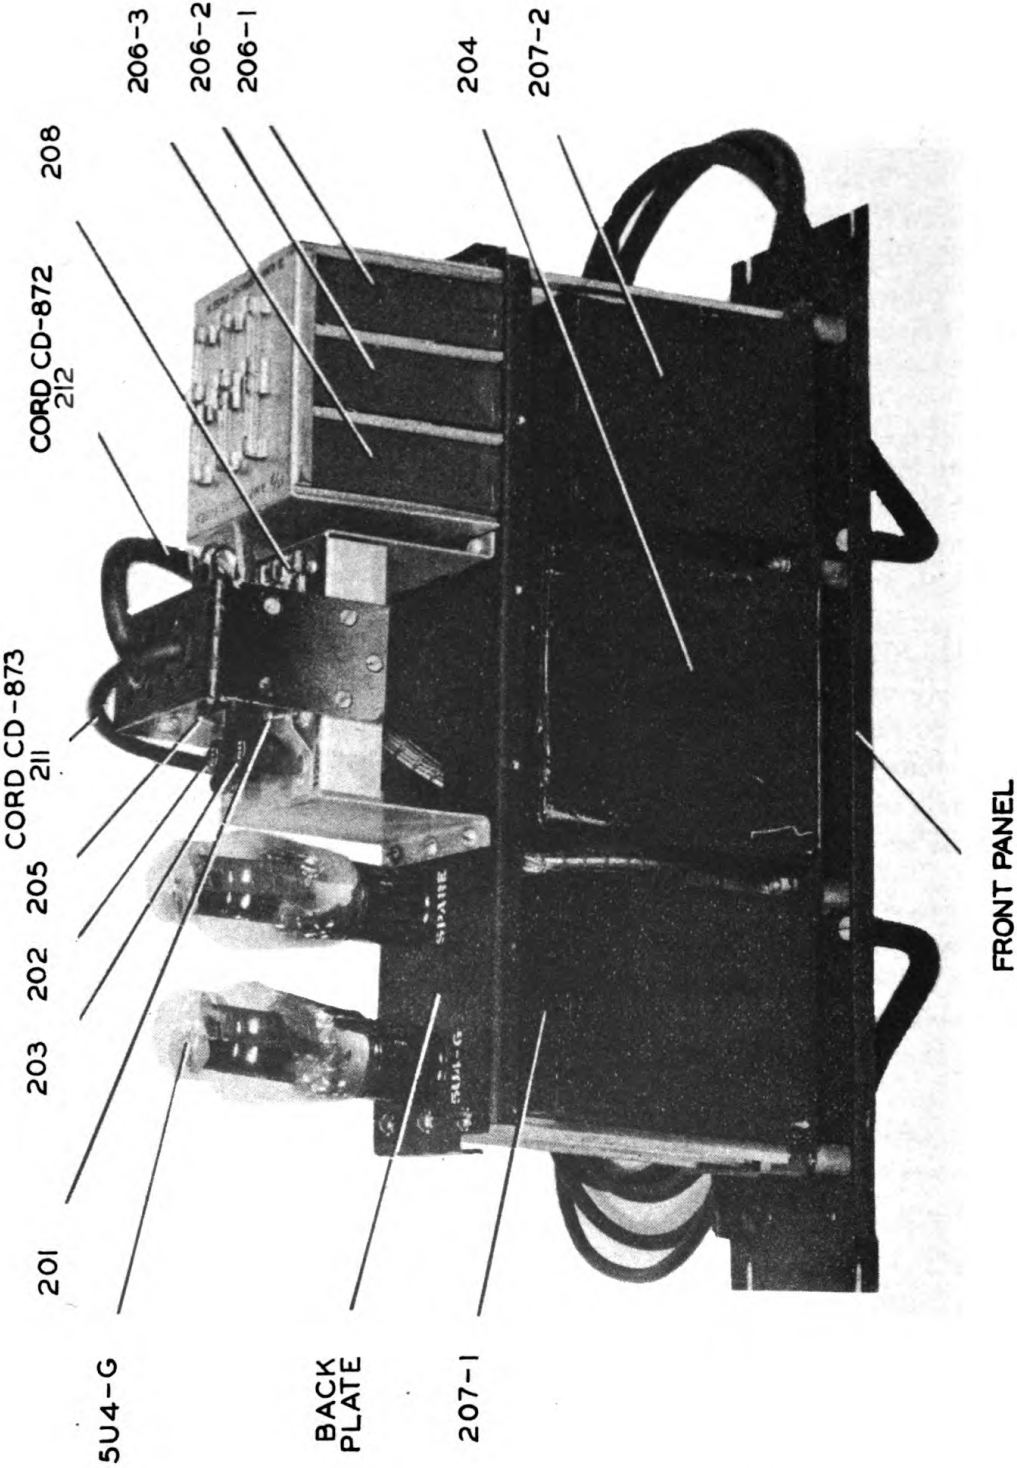

Figure 10. Power Supply Unit RA-61-A, interior view
a. **Filter capacitors.**—(1) To remove the filter capacitors, first loosen the BACK PLATE (see figure 10) from the three posts on each side of the power unit to which the plate is mounted. Take out the six screws and it will be free. Take the wires off of the capacitor by unscrewing the nuts and lifting the wires from it. Remove the four screws from the bracket that holds the three capacitors in place. Lift the bracket off. **BE CAREFUL** not to break any fuses. Now pull the capacitor out.
(2) Put the new capacitor in its proper place; set the capacitors in the retaining bracket and screw the bracket on to the BACK PLATE. Use the lockwashers. **BE SURE** to put the cardboard spacers between the capacitors and on the ends. Put the wires on the screws of the capacitor, put on the nuts and tighten them. Screw the BACK PLATE on to the posts (use lockwashers). Put the case back on.
b. **Choke coils.**—(1) Take out the six screws and spacers that hold the FRONT PANEL (figure 10) to the posts. Take out the top screw and nut which hold the choke to the panel. Lay a small flat board or other strong material (bottom chassis plate if available) across the back part of the power unit. Now turn the front section over on top of the board. Take out the other two screws which hold the choke to the FRONT PANEL. Unsolder the wires and take the choke out.